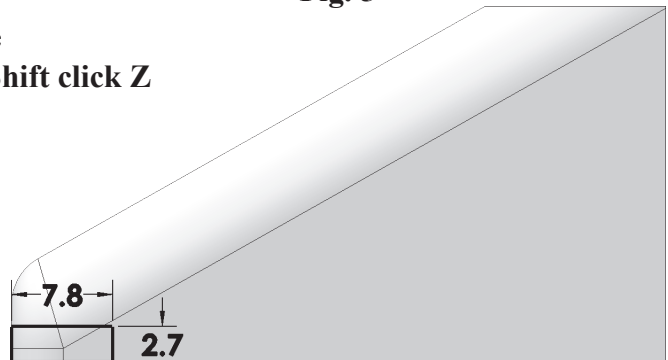

Fig. 6
Step 5. Click **Smart Dimension**  (S) on the Sketch toolbar.
Step 6. Add dimensions, **Fig. 6**.